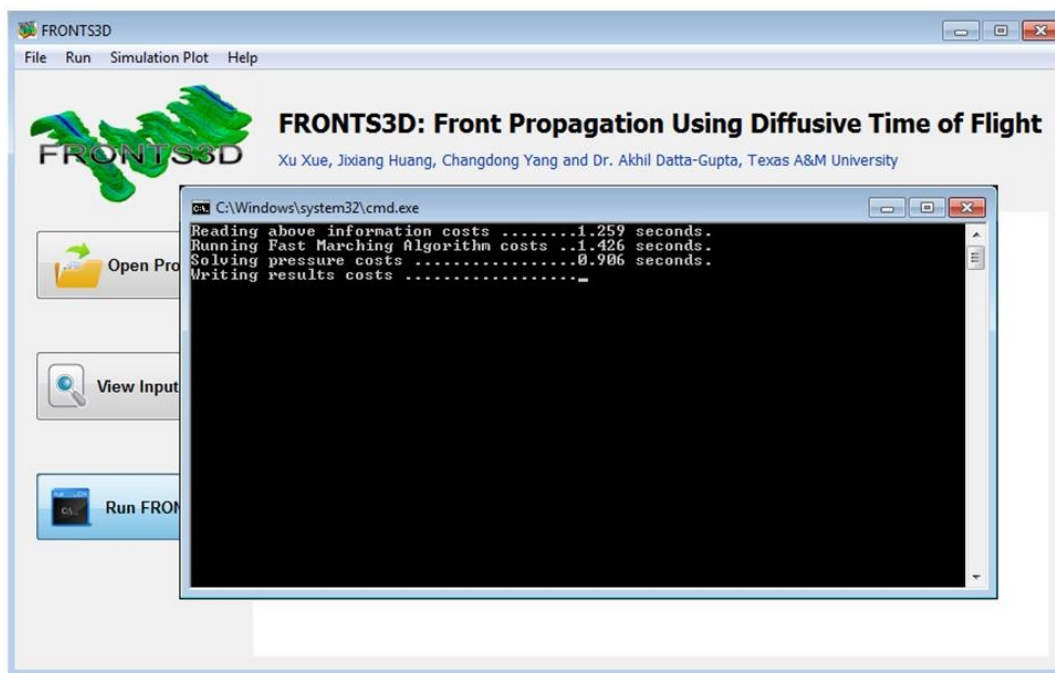

**Figure 5. Input Data Panel**
4. Once the data file is loaded into the interface, you can click View Input Data button on the main screen to view and modify the input data file. (**Figure 5**). You can check **Keywords Reference Manual** at the back for the keywords appear in the input data file.